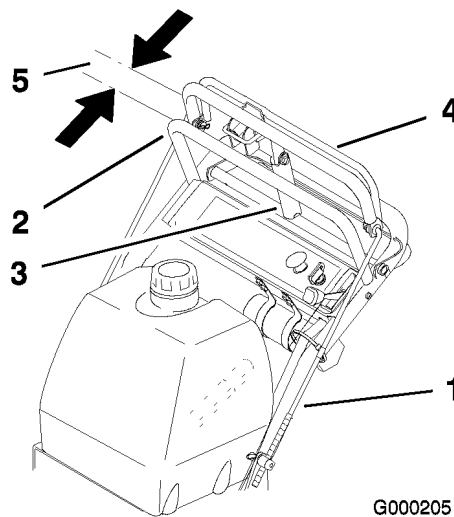

Figure 12
4. Check the gap between upper control bar and fixed bar with wheel drive fully engaged. Gap should be approximately 1 to 1-1/4 inch (25-32 mm) (Figure 12).